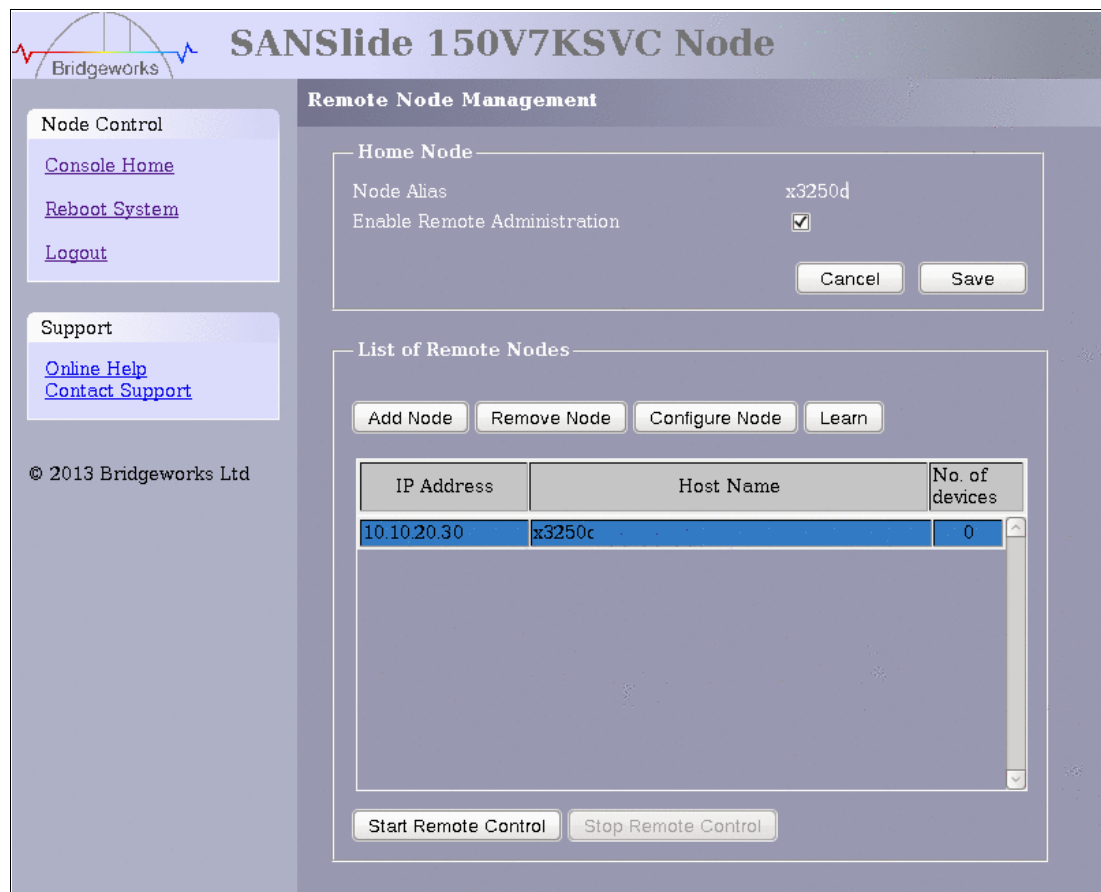

Figure 2-14 Discovered remote nodes
- Note that the Remote Node Management panel (Figure 2-14) now shows this defined connection.